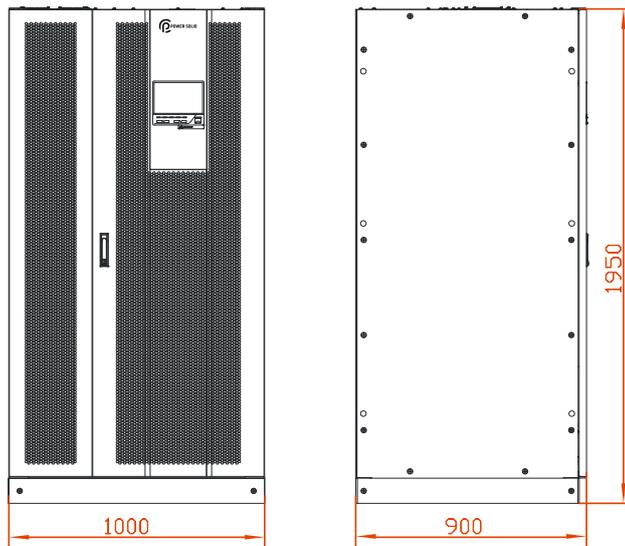
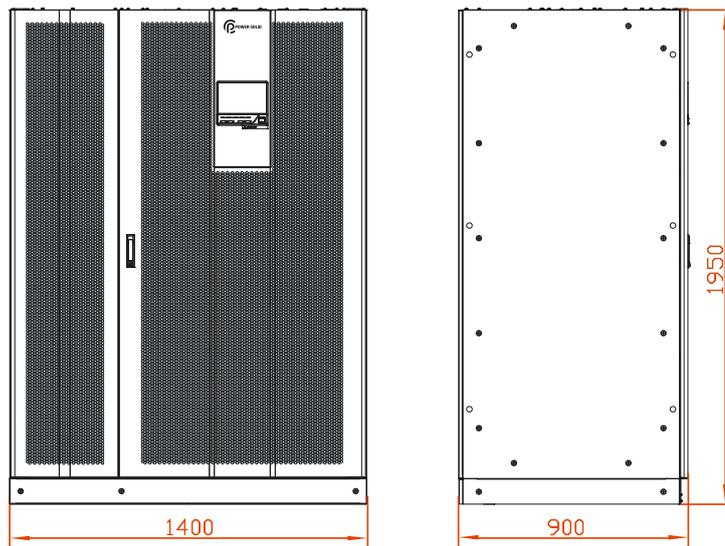
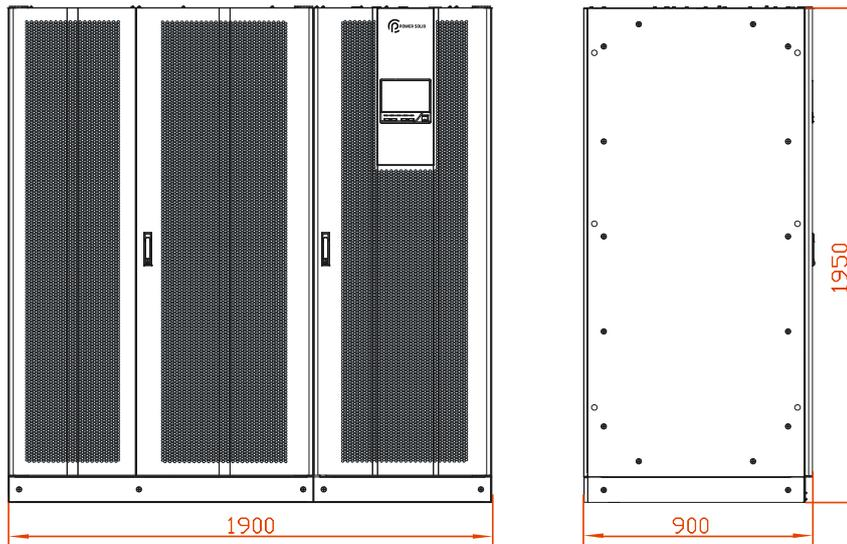
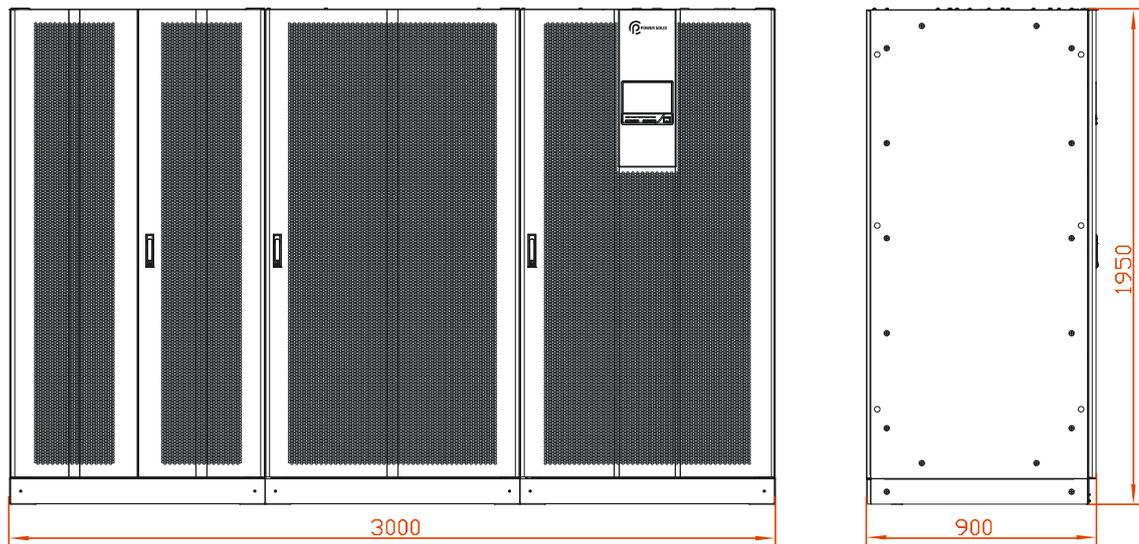

Figure3-7 Size of PS300KVA, PS400KVA (unit: mm)
Figure3-8 Size of PS500KVA, PS600KVA (unit: mm)
Figure3-9 Size of PS800KVA (unit: mm)
Figure3-10 Size of PS1000KVAKR331200 (unit: mm)
Step 1 Determine and plan the installation position according to the UPS size (as shown in Figure3-7, Figure3-8, Figure3-9, Figure3-10) and installation clearance requirement (see 3.3.3 *Installation Clearance*).